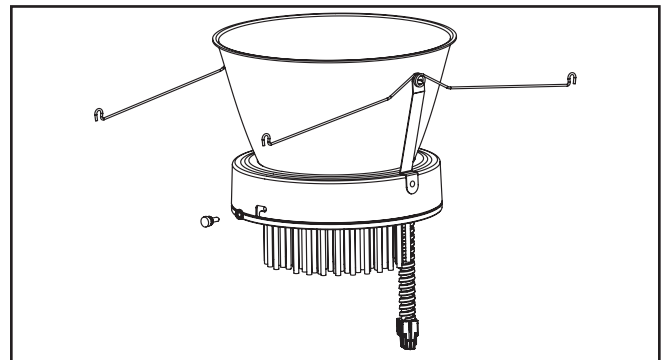

Figure 5.
4. Using provided thumb screws, securely attach lower trim to LED Engine. Align Power Plug from LED Engine with cylinder housing connector and push together. Electrical connection has now been made (Figure 5.).